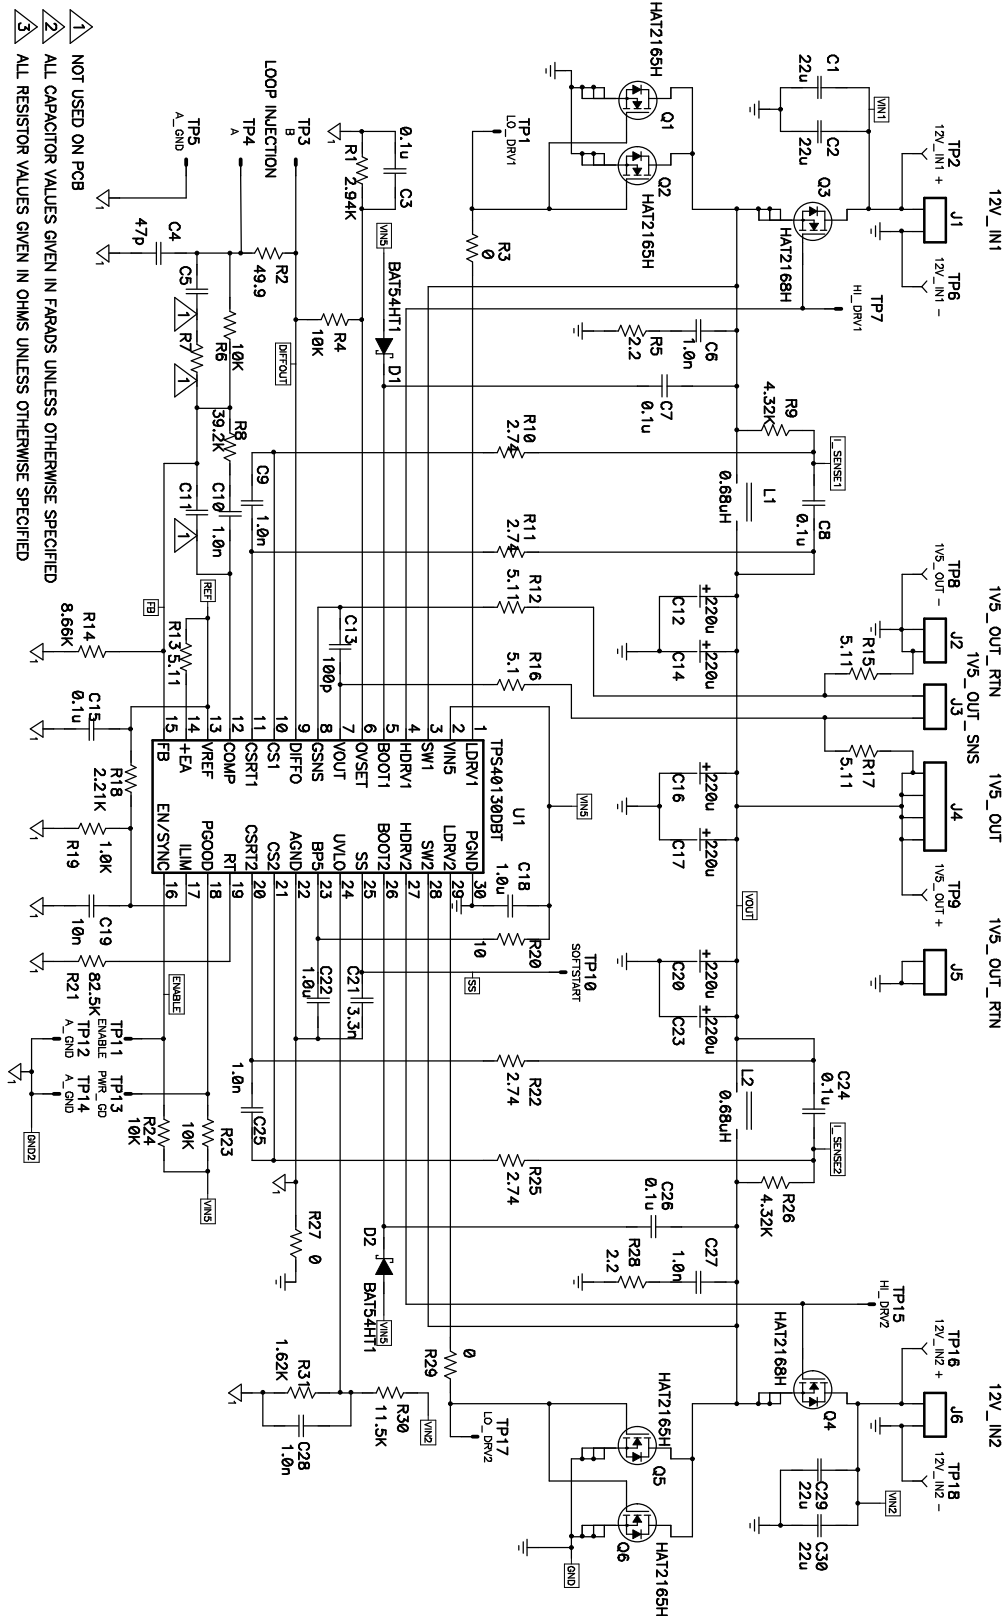
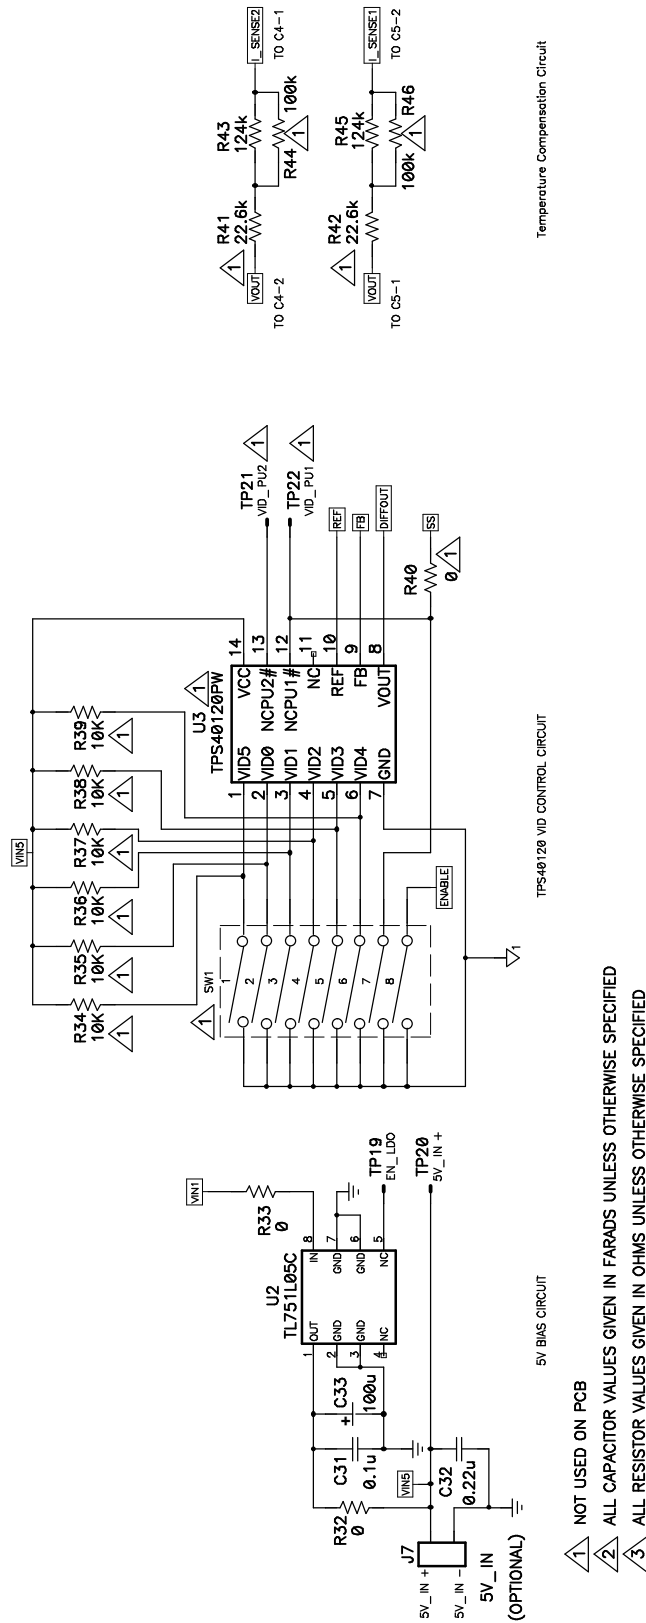

Figure 1. TPS40130EVM-001 Power Stage/Control Schematic
Figure 2. TPS40130EVM-001 Support Circuitry Schematic
$V_{12V\_IN}$ : The input voltage source ( $V_{12V\_IN}$ ) should be a 0-V to 15-V variable dc source capable of 8.5 Adc. Connect  $V_{12V\_IN}$  to J1 and J6 as shown in Figure 1.
5. Connect LOAD1 to J2 as shown in Figure 1. Set LOAD1 to constant current mode to sink 0 Adc before  $V_{12V\_IN}$  is applied.
Table 4 lists the EVM components as configured according to the schematic shown in Figure 1 and Figure 2.